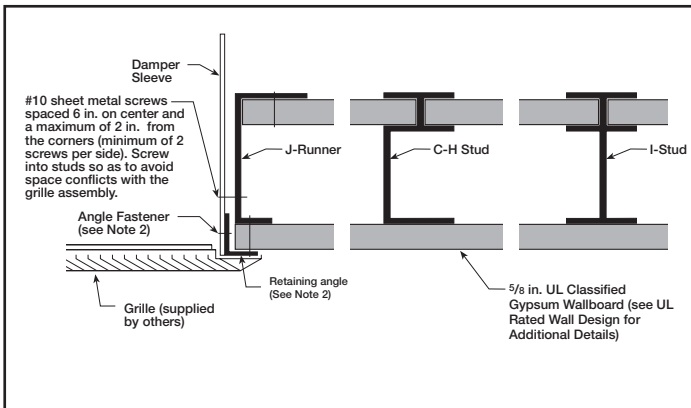
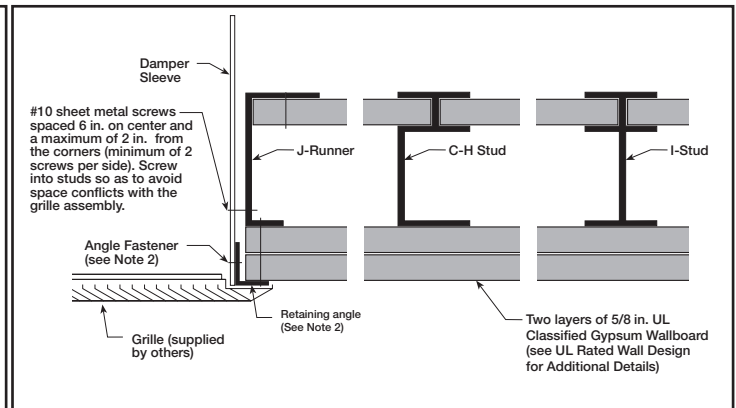

Figure 7: 1 Hour Shaftwall Rating
Figure 8: 2 Hour Shaftwall Rating
- Using #10 sheet metal screws, screw from inside of sleeve into the studs. Space screws a maximum of 6 in. (152mm) on center and a maximum of 2 in. (51mm) from the corners (minimum of 2 screws per side). (See **Figure 7** and **Figure 8**).